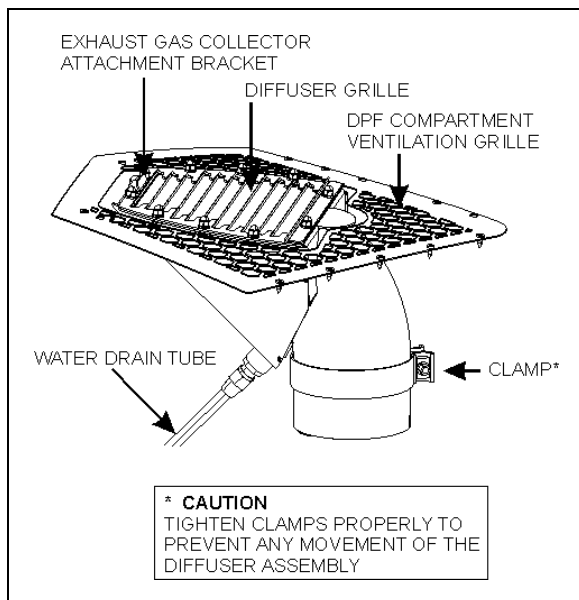
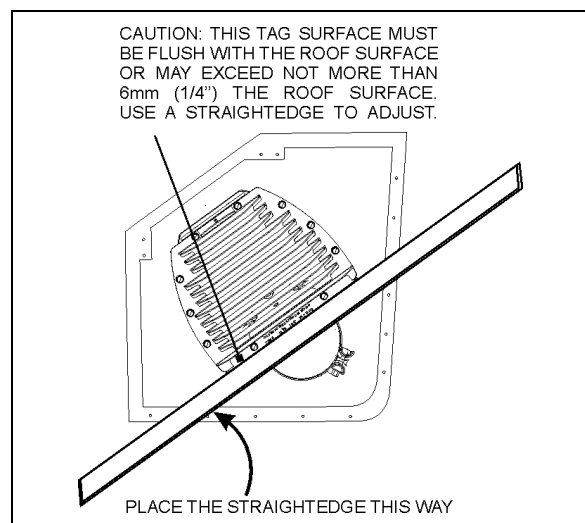

FIGURE 9: DIFFUSER ASSEMBLY
FIGURE 11: DIFFUSER POSITION ADJUSTMENT
| FIGURE 9: DIFFUSER ASSEMBLY .....  | 6 |
3. Using a straightedge, adjust the diffuser assembly level. The top surface of the tag fixed on the diffuser grille must be flush with the roof surface (fig.9). It may exceed about 1/4in (6mm). Place the straightedge as shown on figure 11.